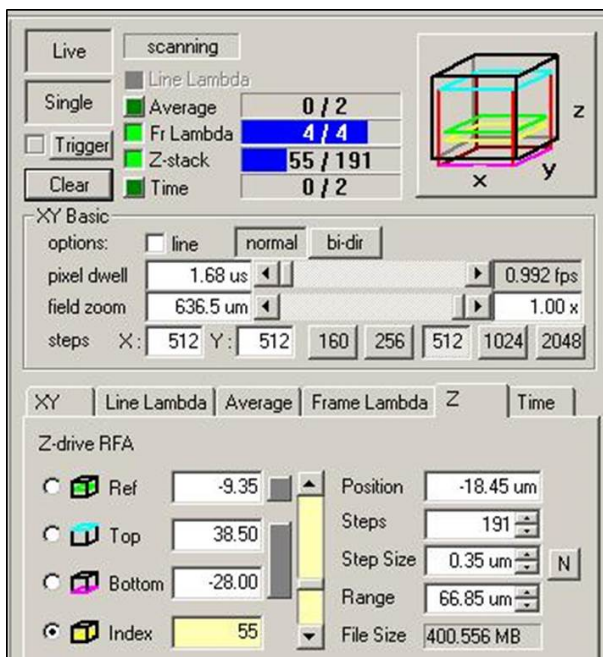

Figure 10: Z-stack settings.
3. Set a reference point by selecting 'Ref' and moving to a z-position (Figure 10). This can be any point between the top and bottom of your sample.